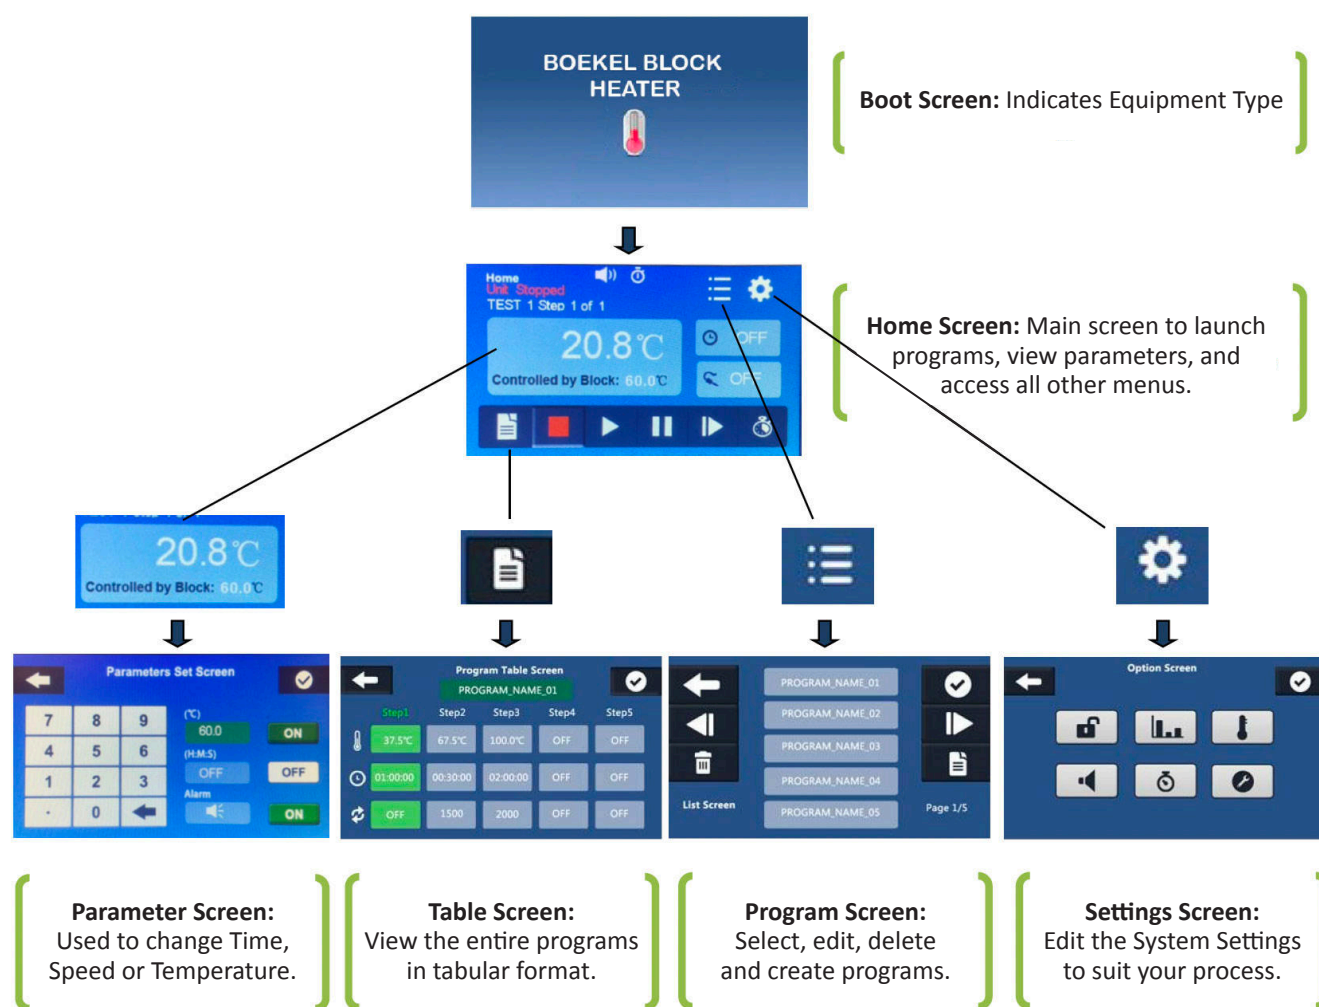

FIGURE 1
4.1 Home Screen Navigation (Figure 1) – Navigation and Screen Overviews